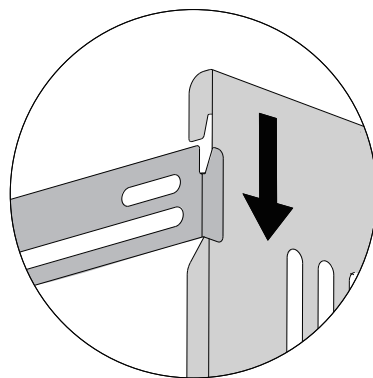
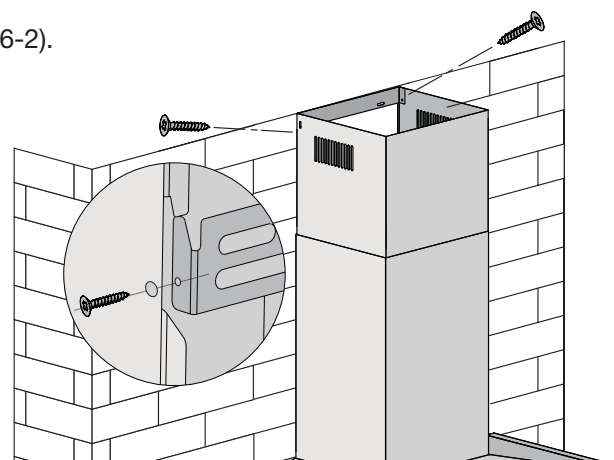

Figure 6-1
Figure 6-2
- Drill two holes according to the size of the upper mounting bracket. To install chimney flush to the ceiling, the upper mounting bracket orifice should be positioned 2.1 cm from the ceiling if hooking chimney to bracket (see Figure 6-1), or 2.6 cm from the ceiling if screwing bracket to chimney (see Figure 6-2).
- Either hook the bracket to the upper chimney by matching the side lock (see Figure 6-1),
screw the upper chimney to the upper mounting bracket (see Figure 6-2).